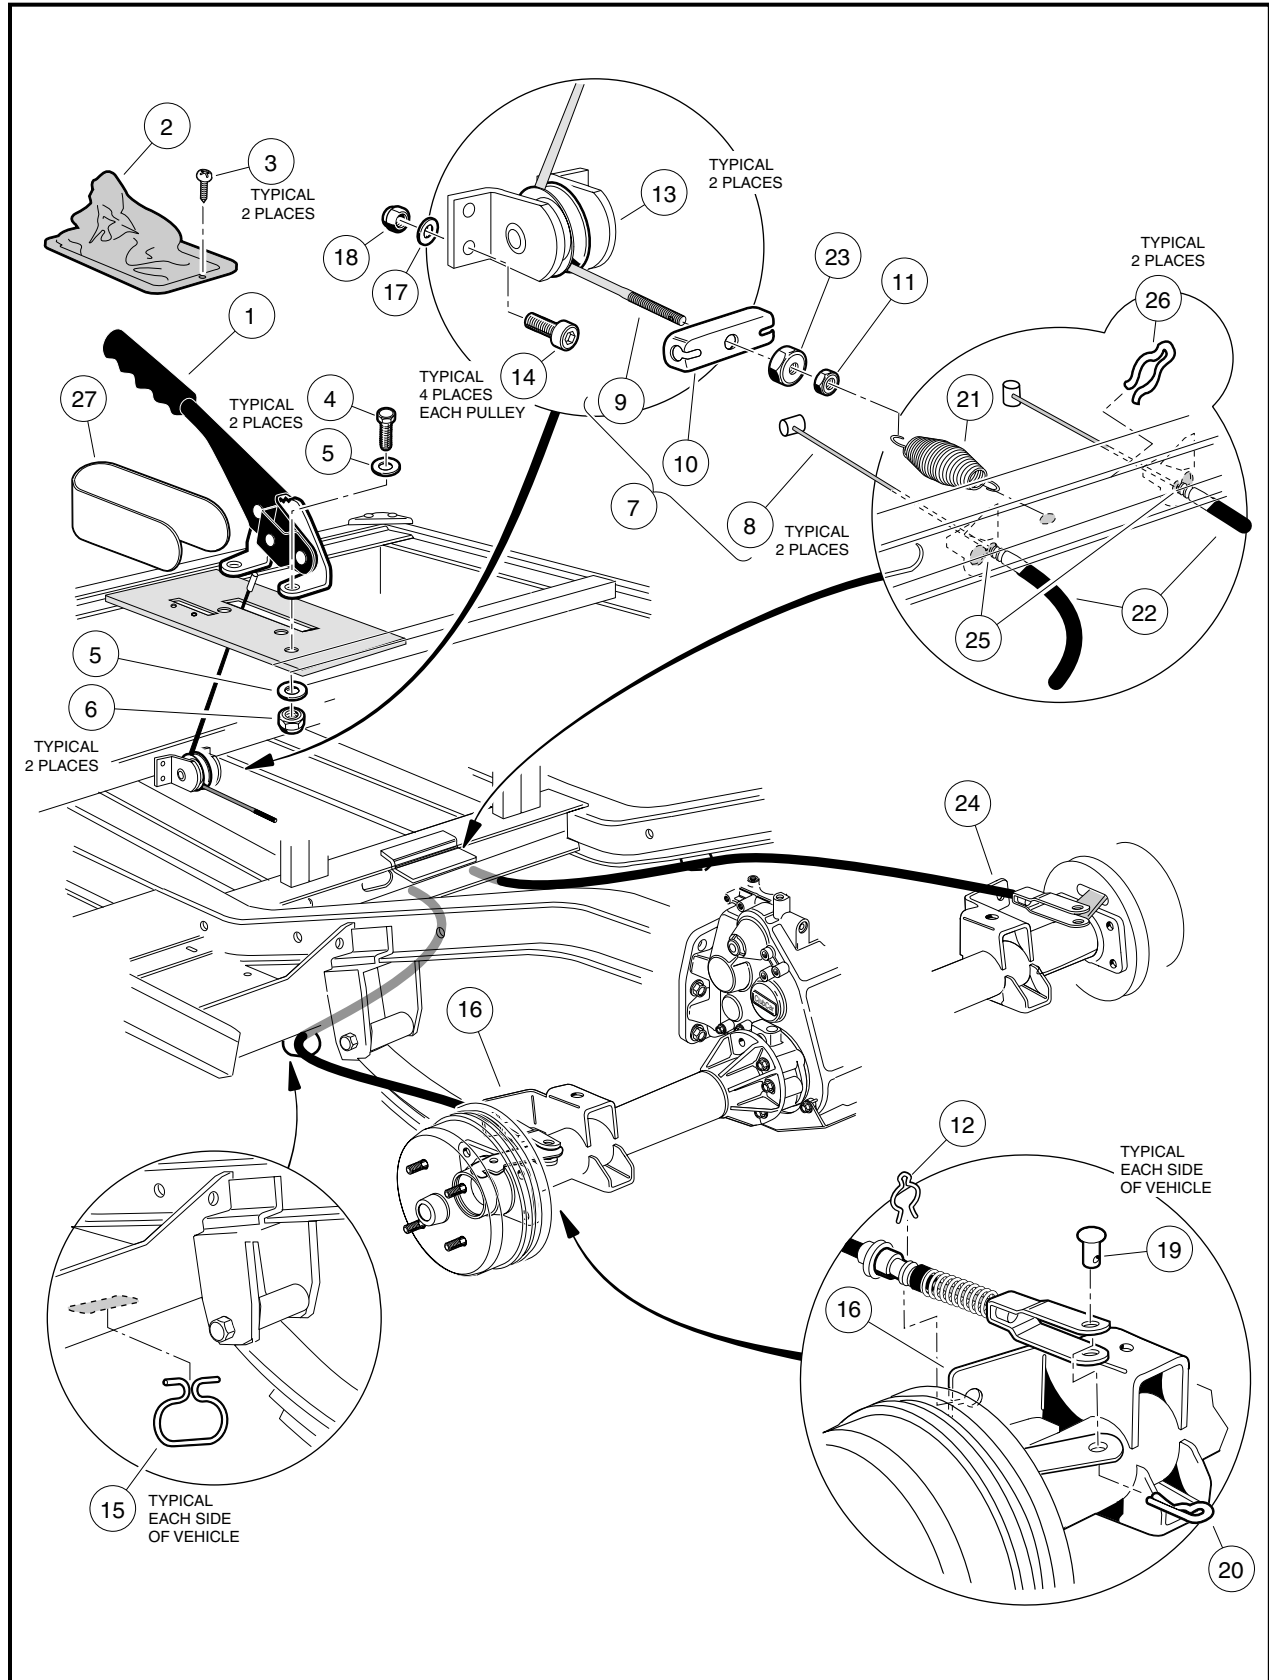

Figure 6a-28 Park Brake System
- 2.1. Loosen the equalizer jam nut (11) and the conical nut (23) to provide slack in the wheel brake cables (**Figure 6a-28, Page 6a-40**).
3. Using a torque wrench and Torx #T-27 driver or hydraulic brake adjuster (CCI P/N 102169401), gently rotate the adjuster bolts to increase or decrease the clearance between the brake shoe lining and the brake drum (**Figure 6a-16, Page 6a-19**). **See following CAUTION.**
- Do not apply more than 65 in-lb (7.3 N·m) of torque to any of the adjuster bolts. Overtightening of the adjuster bolts could result in damage to the brake cluster components or the separation of the bolt (4) from the adjuster (3) (**Figure 6a-3, Page 6a-4 or Figure 6a-21, Page 6a-25**).
4. With the park brake released (down), tighten the conical nut (23) until significant resistance is observed in the equalizer cable in order to fully lock the brakes **(Figure 6a-28, Page 6a-40)**.
7. Using the double-wrench method, tighten the equalizer jam nut (11) against the conical nut (23) to 55 in-lb (6.3 N·m) **(Figure 6a-28, Page 6a-40)**.